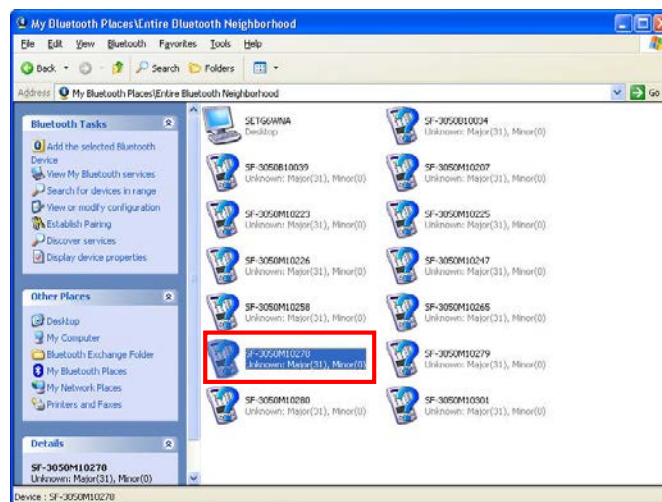
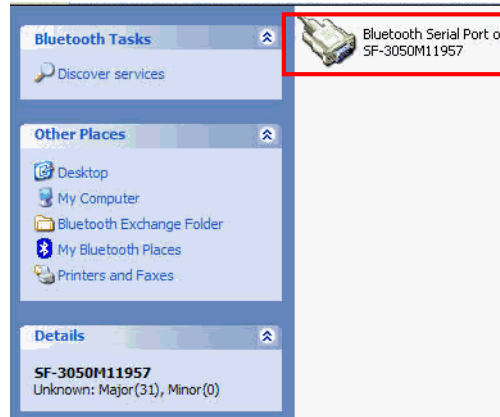

Figure 89: Bluetooth Devices in Range
Figure 90: Bluetooth Serial Port Icon
5. Double-click *Search for devices in range* on the *My Bluetooth Places* dialog box to display a list of the Bluetooth devices in range (refer to Figure 89).
6. Double-click the desired SF-3050 in the Bluetooth device list (see Figure 89). A Bluetooth serial port icon for the selected receiver is displayed (see Figure 90).